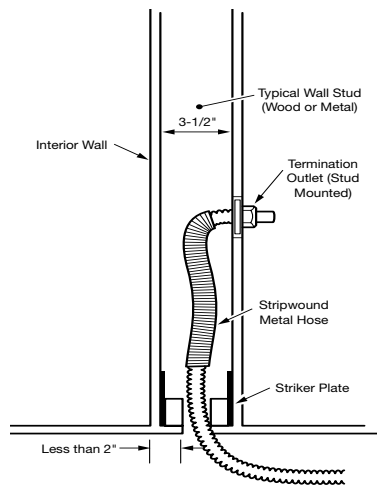

Figure: 4-21
c. Hardened steel striker plates provide the required protection through building structures as described above. Type RW Floppy steel conduit shall be installed as additional protection at termination points. Figure: 4-21.